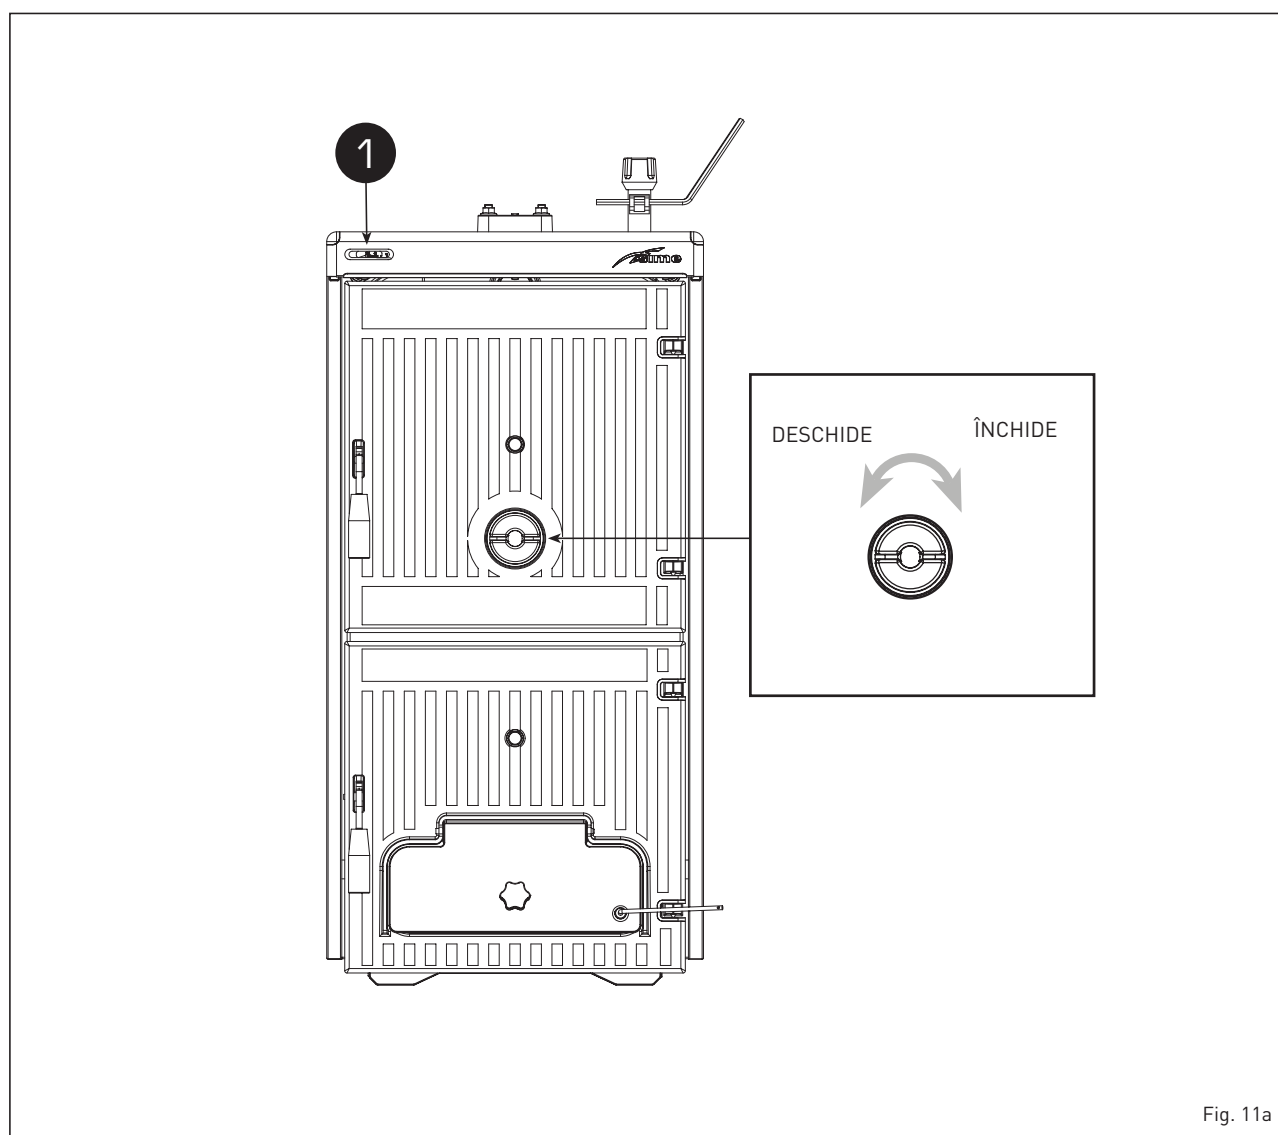

Fig. 11a
5.2 TERMOMETRUL CAZANULUI (fig. 11a)
5.3 REGLAREA CANTITĂȚII DE AER (fig. 11a-11b)